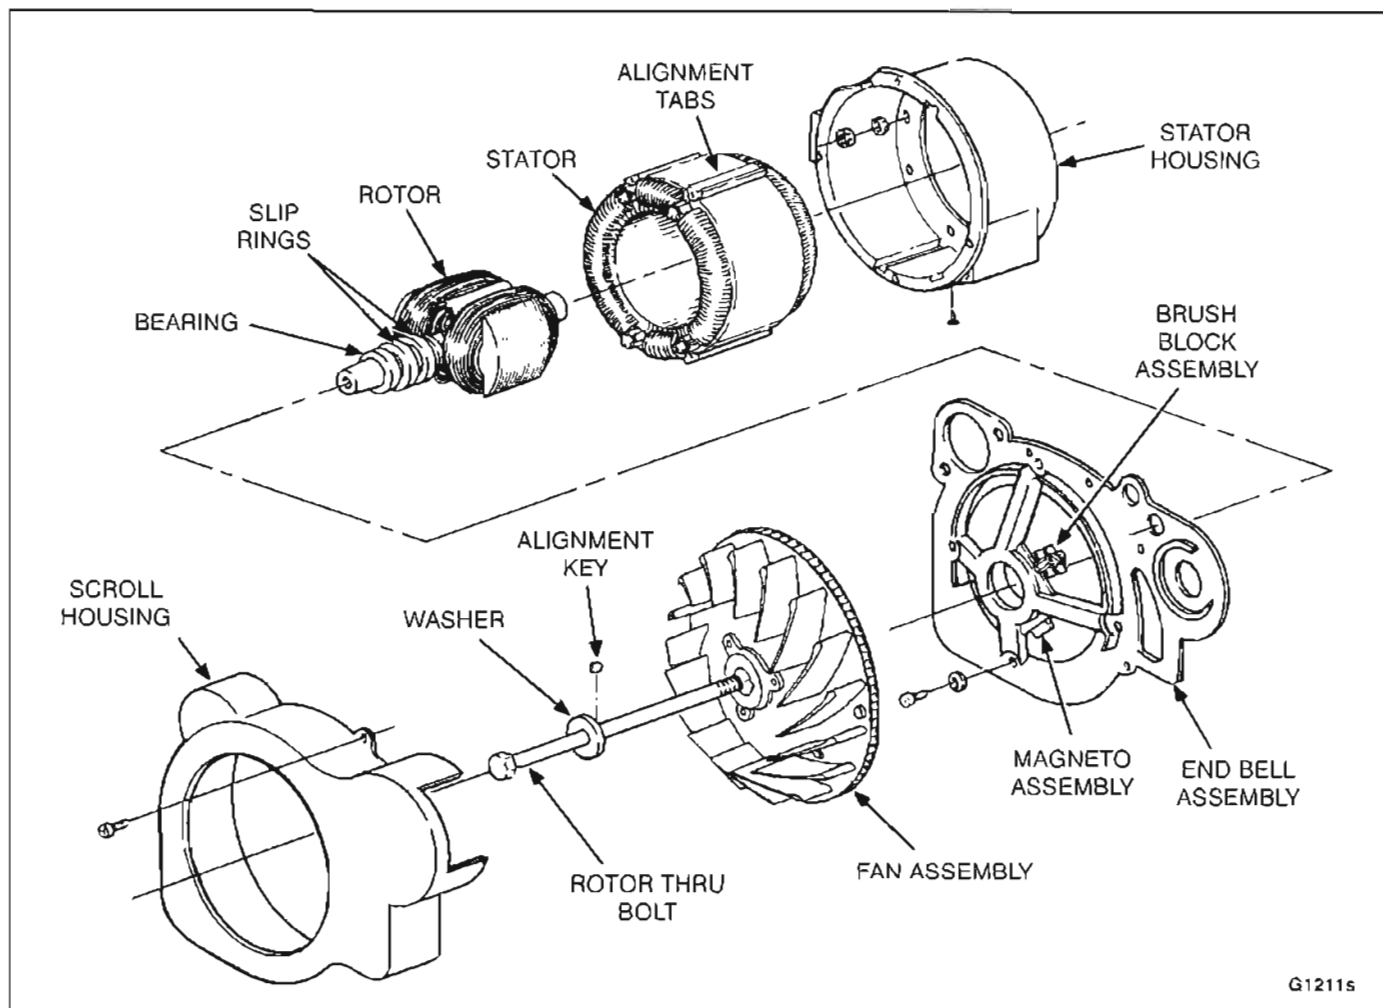

FIGURE 9-1. GENERATOR
The rotor consists of a stack of laminations wrapped in a field winding, a shaft through the laminations, molded slip rings on the shaft and a bearing pressed on the shaft. The entire assembly is connected directly to the tapered engine crankshaft by means of a throughbolt. The rotor is supported on the other end by the endbell, which is placed over the bearing and secured to the stator housing (Figure 9-1).
This section covers generator disassembly and assembly procedures. Refer to Figure 9-1 to identify the various generator components described in each sub-section.
8. Remove the air filter cover, retainer, and filter (Figure 8-15 on Page 8-13). Remove the scroll housing from the endbell (Figure 9-1).